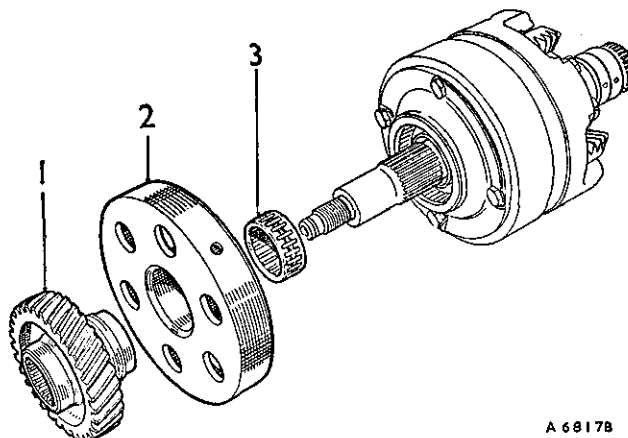

Fig. Fa.47
- (30) Refit the input gear and needle-roller bearing (see Fig. Fa.47).